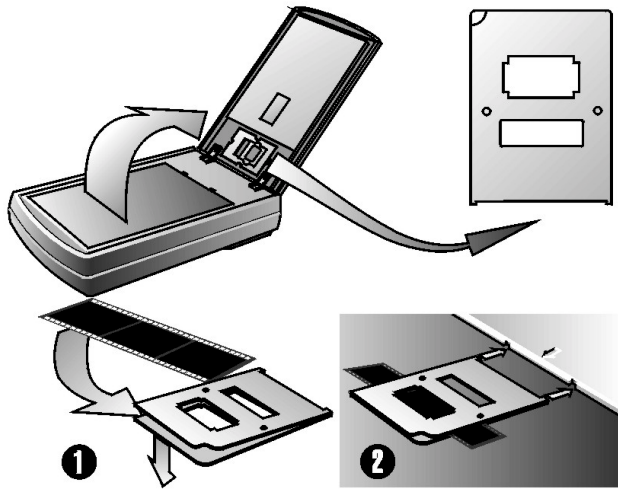

Figure 8. Negative Film Scan
1. Insert the negative film stripe into the appropriate holder (see Figure 8, Step ❶). There will be a small rectangular opening that is not covered by the film. **Do not cover this opening.** The opening is very important for calibration.
2. Place the frame holder onto the scanner glass. There are two notches in the frame of the scanner surrounding the scanner glass (see Figure 8, step ❷). The two tabs on the frame holder should be fit into the notches. When this is done, the film is perfectly positioned for scanning.